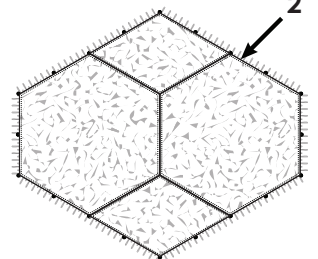
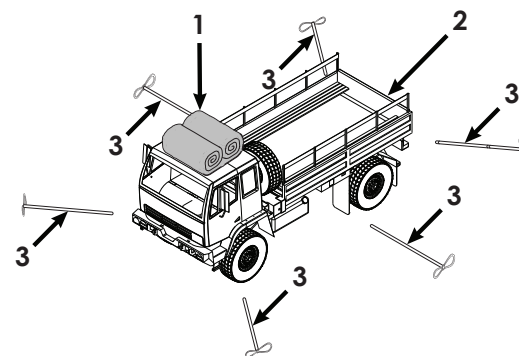

Figure 1.
Figure 9.
3. Starting at an intersection of the screens (Figure 1, Item 1) working outwards, join the screens together using becket laces. (Refer to becket lacing steps on opposite side of this guide) Continue until screens are joined together as one complete net assembly. (Figure 1, Item 2)
2. Position support poles around the equipment or object to be concealed (Figure 9, Item 3).
3. Position the assembled ULCANS net assembly (Figure 9, Item 1) on top of the equipment or object to be concealed (Figure 1, Item 2).